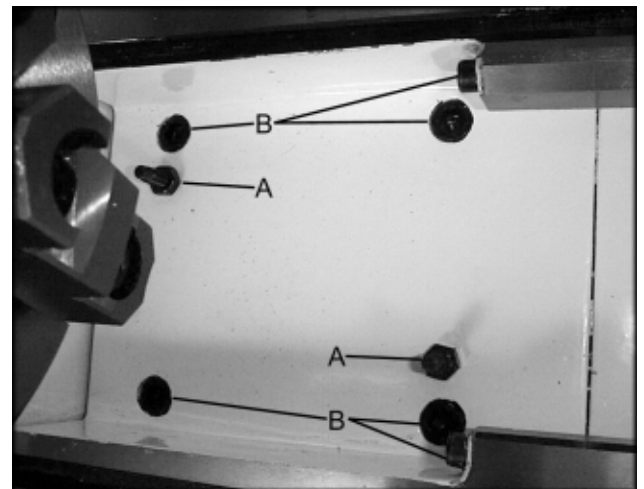

Fig. 25
1. To remove gap section, locate two nuts (A, Fig. 25) in the center of the gap section.
3. Remove six hex socket cap screws (B, Fig. 25) with a hex key wrench.